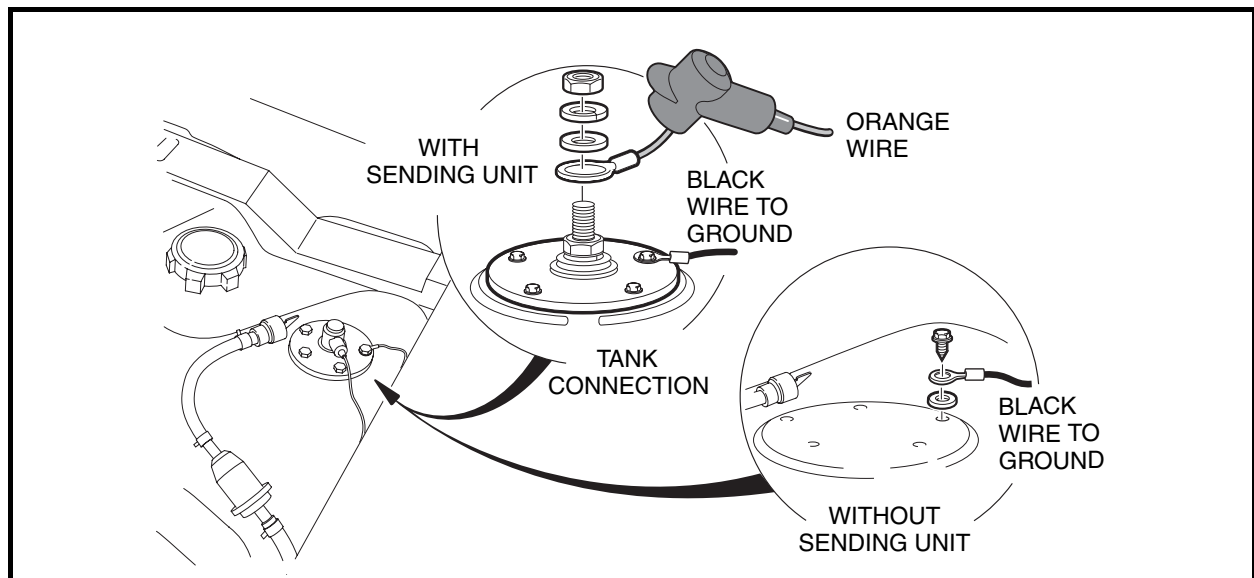

Figure 14-11 Fuel Level Sending Unit
8. If vehicle is equipped with a fuel gauge, disconnect the black wire and orange wire from the fuel level sending unit on the tank (**Figure 14-11, Page 14-19**). Do not remove the lower nut on the center stud of the sending unit. If vehicle is not equipped with a fuel level sending unit, disconnect black ground wire. See following **WARNING**.
5. If vehicle is equipped with fuel level sending unit, connect the black wire from the fuel gauge to one of the fuel level sending unit screws. Connect the orange wire to the center stud and install the flat washer, lock washer, and nut. Tighten to 18 in-lb (2.0 N·m). Slide the rubber boot over the stud (**Figure 14-11, Page 14-19**). If not equipped with fuel level sending unit, connect black wire to ground screw on fuel tank. Tighten to 18 in-lb (2.0 N·m).